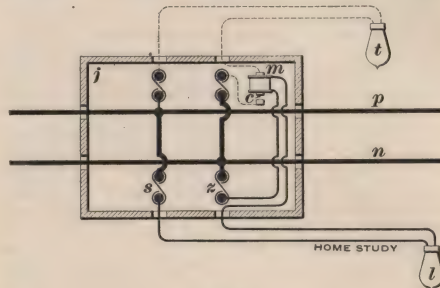

FIG. 1.
(28) I have one 80-volt lamp taking 0.8 ampere, connected up as shown by the full lines in Fig. 1, p and n being the mains, j a junction-box, and sz being the branch-circuit to the lamp l . I wish to know how to wire up another lamp t in the next room, so that it will light up when the first lamp l burns out, or either one of the fuses s or z blow; but I do not wish the lamp t to burn when the lamp l is all right. The wires should all be lead from the junction-box j , which is water-tight. R. C., Eastport, Md.
ANS.—The object may be accomplished by putting an electro-magnet m , as shown in Fig. 1, in circuit